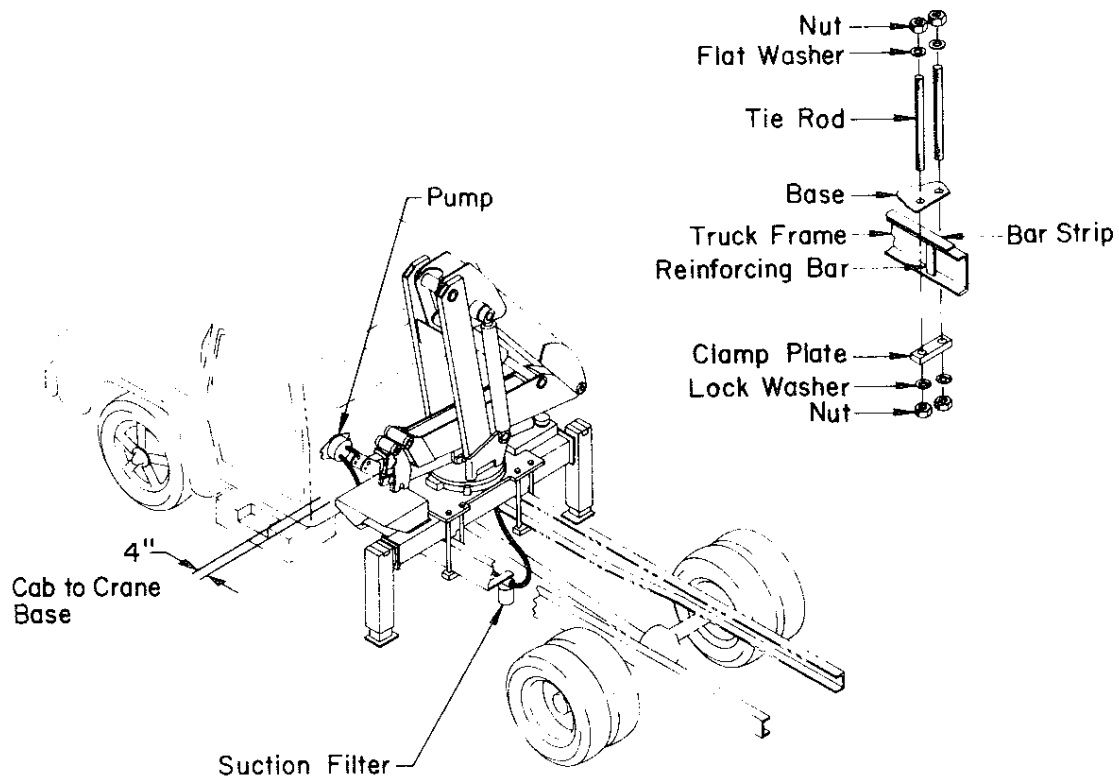

Figure H-2. Crane Installation
6. Install the suction line filter below the top of the frame and within 48" of the pump (Figure H-2). Locate it in such a way as to make it easily accessible for service.
- 5 Reinforce frame flange by tack welding four $3/8" \times 4"$ (0.95 cm x 10.2 cm) flat bar strips vertically as shown in Figure H-2. The front pair should be centered 4" (10.2 cm) behind the cab and another pair centered 26" (66 cm) behind those. These bars will prevent frame flange collapse
- 2 Install mounting bolts, clip bars, lock washers and nuts to secure crane base to chassis (Figure H-2). Torque mounting bolts to 660 ft. lbs. (91.27 kg-m).
- 1 Install the 1¼" ID suction hose, barbed nipples (2) and hose clamps (2) between the reservoir and the suction filter (Figure H-2). Cut hose to suit.
- 2 Install the 1¼" ID suction hose, barbed nipples (2) and hose clamps (2) between the filter and pump.
- 3 Install the ½" ID pressure hose and swivel hose fittings (2) between the pump and valve bank.